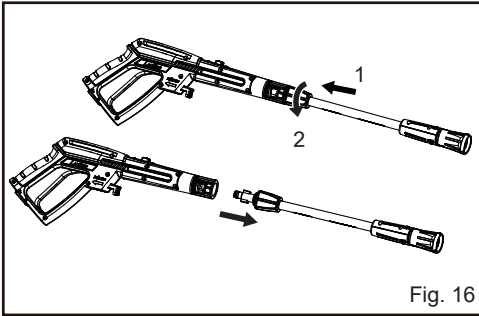

Fig. 16
- Disassemble the spray wand. Push back the spray wand towards the gun handle and turn it counter-clockwise to remove (Fig. 16).